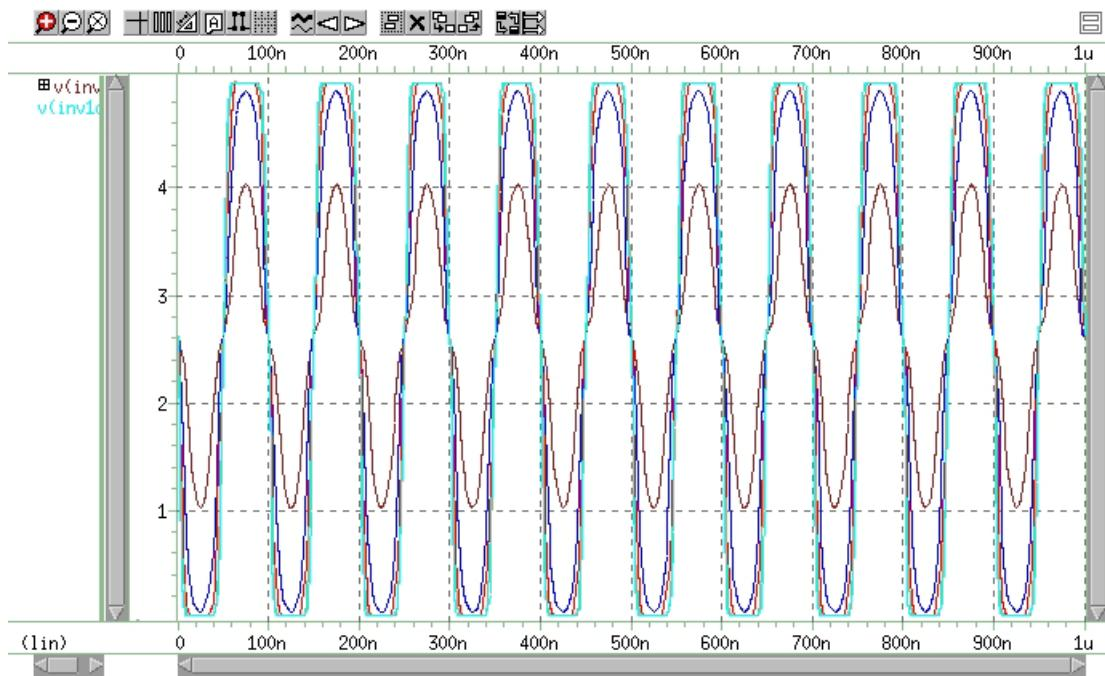
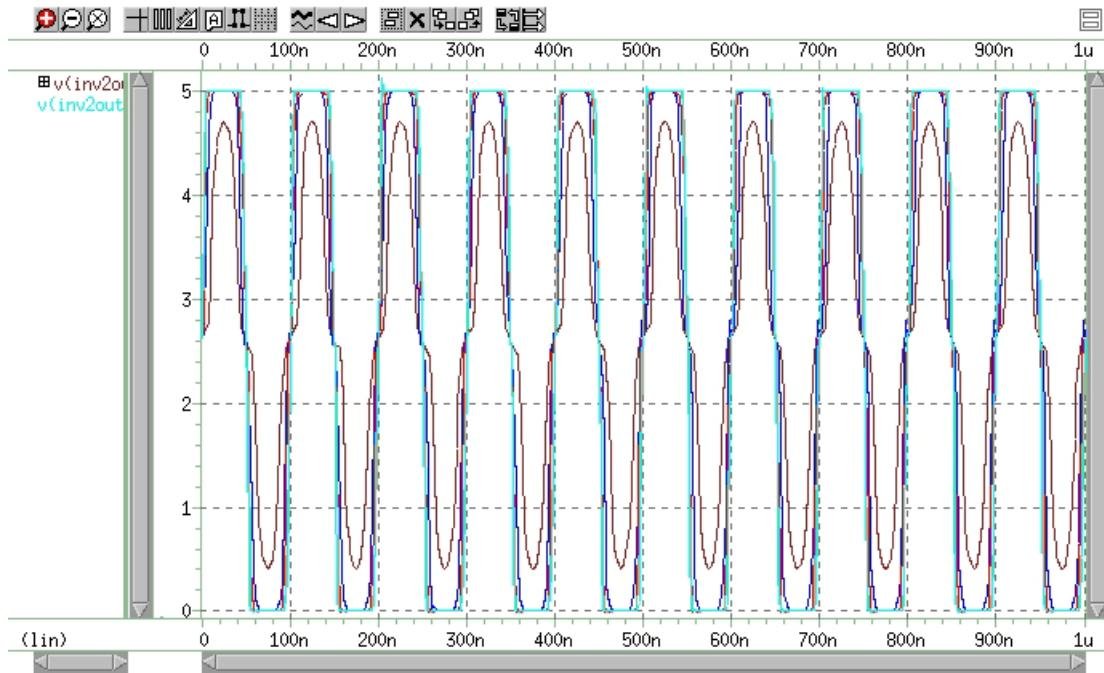

Figure 200 Plot of Voltage on Node *inv1out* vs. Time
Figure 201 Plot of Voltage on Node inv2out vs. Time
8. Repeat Step 6 and Step 7 to view the signals $v(inv1out)$ and $v(inv2out)$ (Figure 200 and Figure 201 on page 1015).